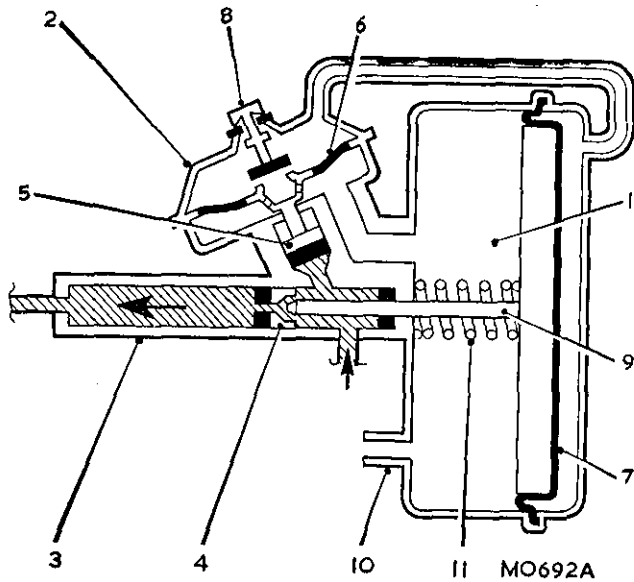

Fig. Mb.1
Refer to Fig. Mb.1. The vacuum-operated servo unit consists of three main components, namely the vacuum cylinder (1), the air valve assembly (2), and the slave cylinder (3) which is connected in the hydraulic circuit between the main master cylinder and the wheel cylinders. Under light braking, fluid is allowed to pass directly to the wheel cylinders via the hollow centre of the slave piston (4) and no braking assistance is obtained; fluid pressure acting on the air valve piston (5) closes the diaphragm (6), thus separating the chamber behind the main servo diaphragm (7) from the one in front. Under heavier braking, further movement of the air valve piston opens the air valve and allows air to enter the chamber behind the main diaphragm, destroying the vacuum. The central rod (9) is thus pushed to the left, sealing the hollow centre of the slave piston and pushing it down its bore, so increasing the fluid pressure at the wheel cylinders. When the brake pedal is released, the pressure beneath the air valve piston is destroyed, the diaphragm (6) re-opens and the air valve closes. Via the non-return valve (10), a suspended vacuum is re-created around the main diaphragm. Under the action of the spring (11), the diaphragm and push-rod, and thus the slave piston, are returned to their original positions, and the pressure in the wheel cylinders is lost.